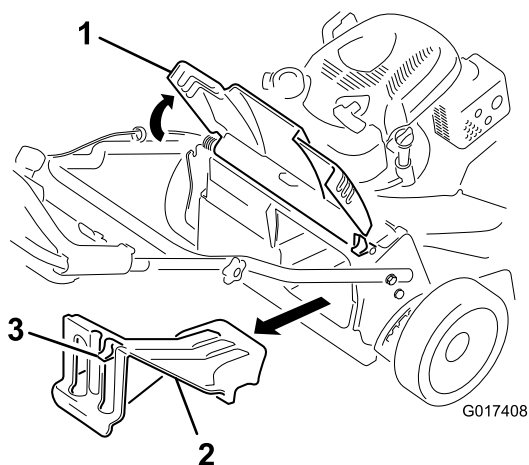

Figure 24
1. Raise and hold up the rear door (Figure 24).
2. Remove the rear-discharge plug by pulling down on the latch with your thumb and pulling the plug out from the machine (Figure 24).